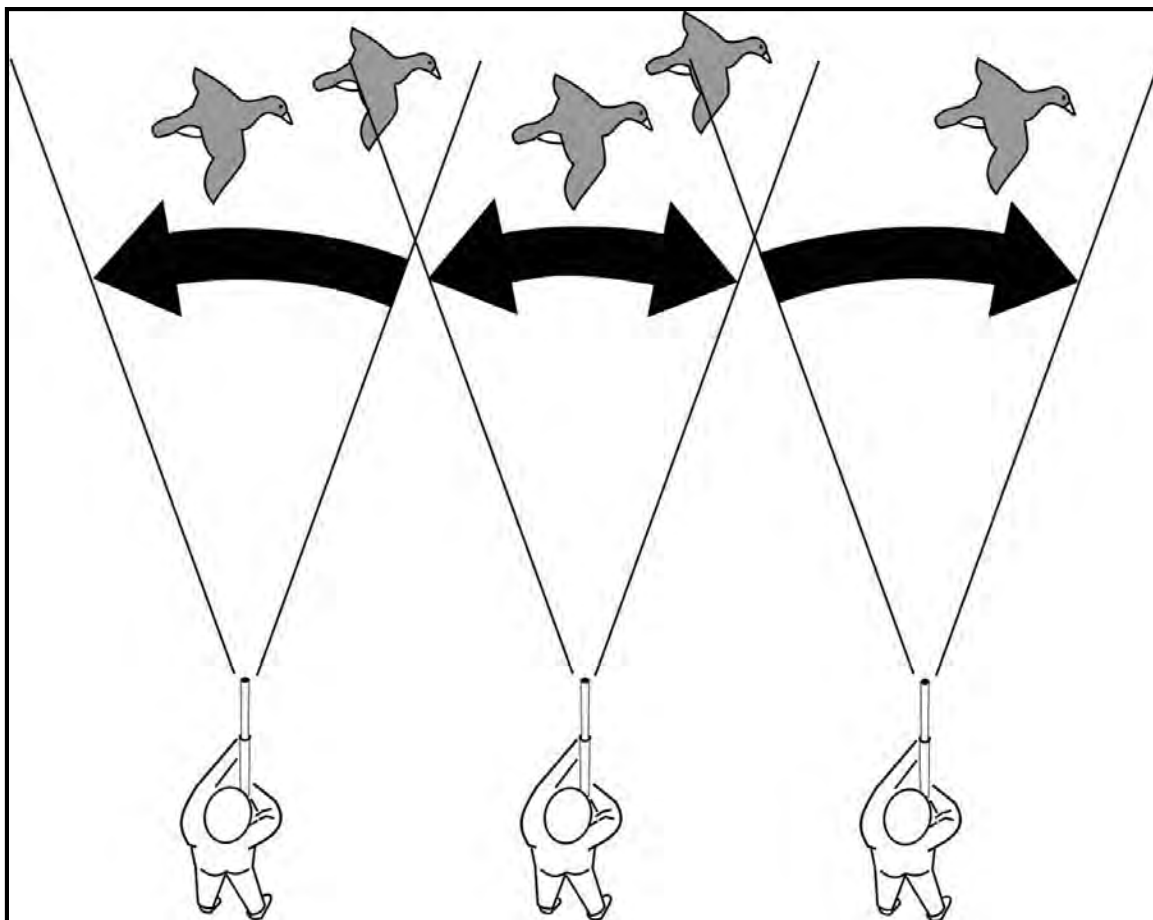

Figure 60. Safe Zones of Fire
- a. It is worth emphasizing again. Any shot fired in the wrong direction by a group member might hit another person. This is true for all shooting situations. Before starting, everybody should agree on which area each shooter will cover in order to prevent this (Figure 60). This will clearly define each individual's safe zone of fire.